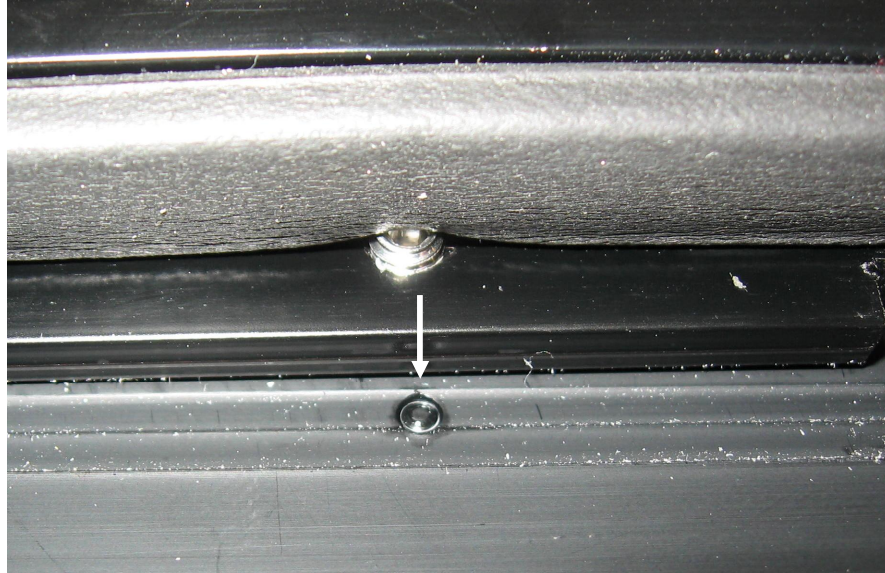

Figure 22
- 9) When installing the lower sash guide cover, line up the set screw with the indentations in the plastic (Figure22)